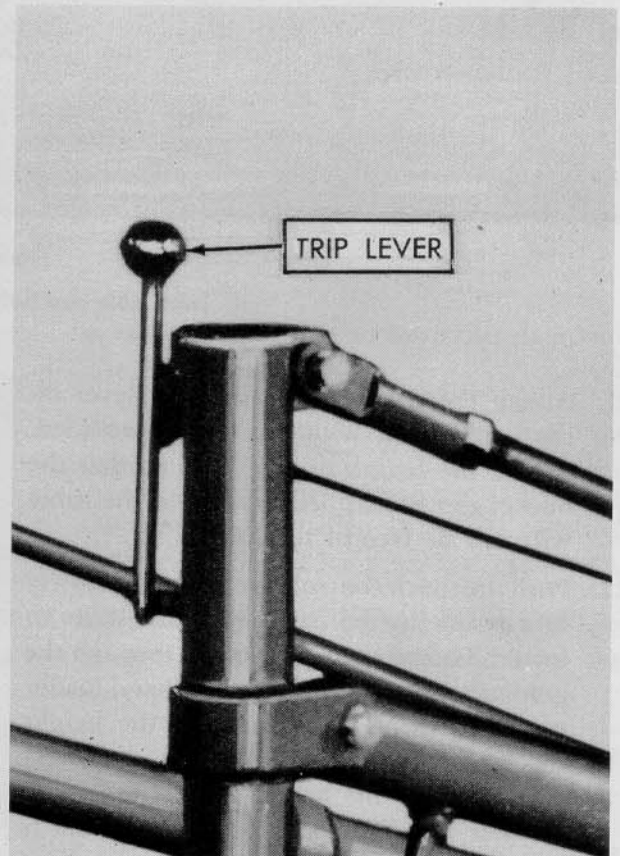

Figure 17
17. Attach the trip lever to the pin welded on the right hand loader post as shown in Figure 17. Secure with cotter pin.